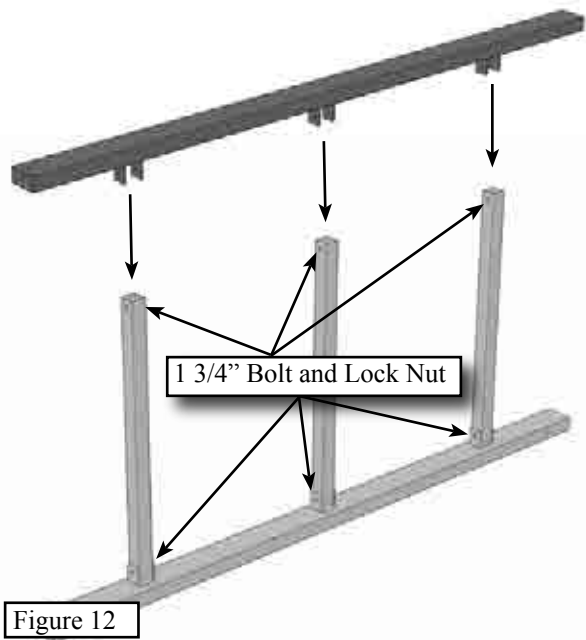

Figure 12
Step 3. Place the remaining upper ladder support column on the three rungs as shown in **Figure 12**. Use three 1 3/4" bolts with lock nuts to secure. Hang tighten these bolts.